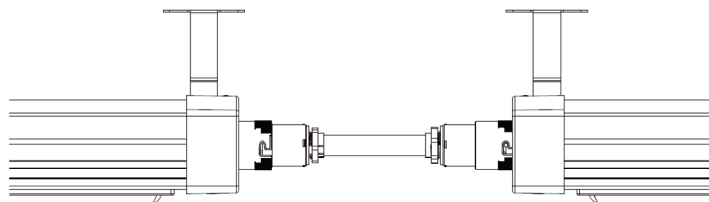

Fig. 1
1. If a jumper cable connection is desired between fixtures, remove the cover on the female connector of the first fixture. Connect the male side of the jumper cable to the female connector on the fixture. Finally, connect the female side of the jumper cable to the male connector on the second fixture. Ensure that all connections are secure by twisting the outer ring on the female connectors until they lock into place (**Fig. 1**).